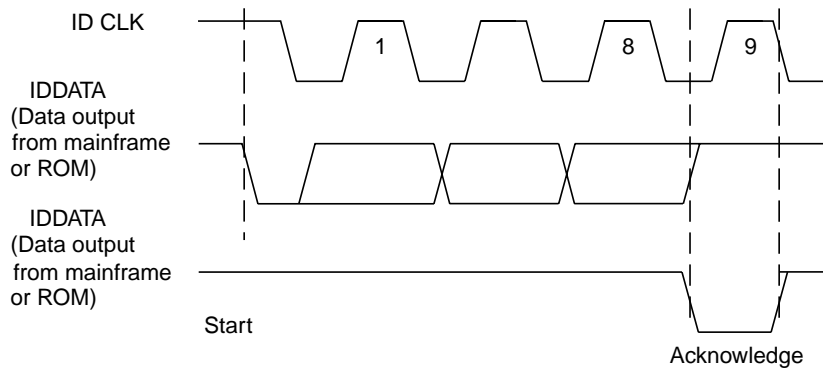

Figure 5-9
2. The mainframe sends the ROM address location to be read over the IDDATA line. The ROM then transmits an acknowledge signal back to the mainframe, and it then transmits data at that location back to the mainframe (Figure 5-9).
4. Once all data is received, the mainframe sends a stop command, which is a low-to-high transition of the IDDATA line with the IDCLK line held high (see Figure 5-9).